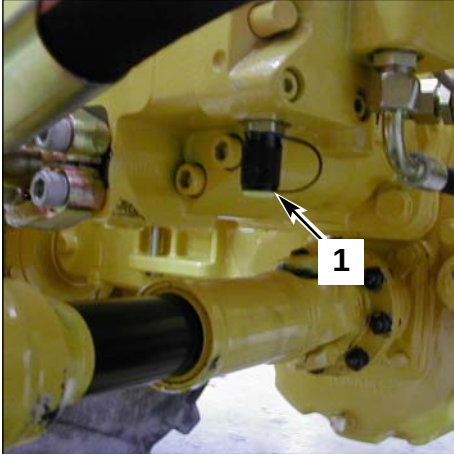

Fig. 1 Transfer movement engine
- 3- Measure the high pressure while the wheels are rotating (1 fig. 1) using the manometer.